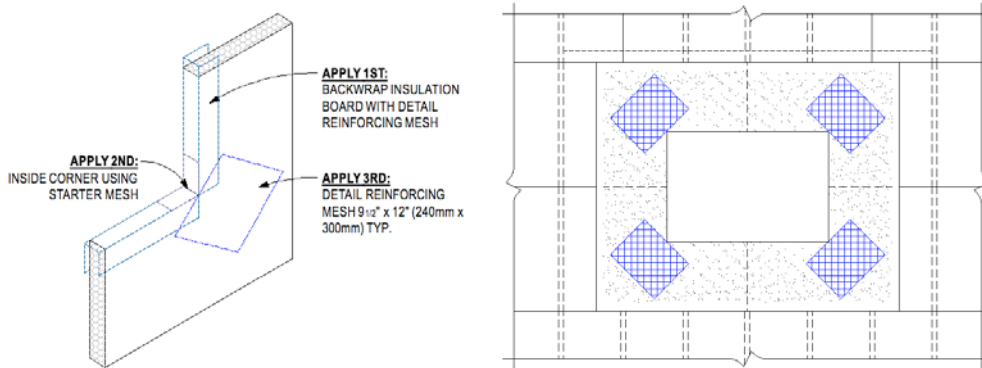

Figure 8
- 8.3.12.1. At openings, align the insulation boards so that the edges (vertical and horizontal joints) do not coincide with the corners of the opening as illustrated in Figure 8 (refer to Dryvit Outsulation MD System Installation Details, DSC167).
- 8.3.19. Corners of all openings such as windows, doors, mechanical equipment and all penetrations shall be reinforced with Detail Mesh placed diagonally to the opening as illustrated in Figure 8 previously.